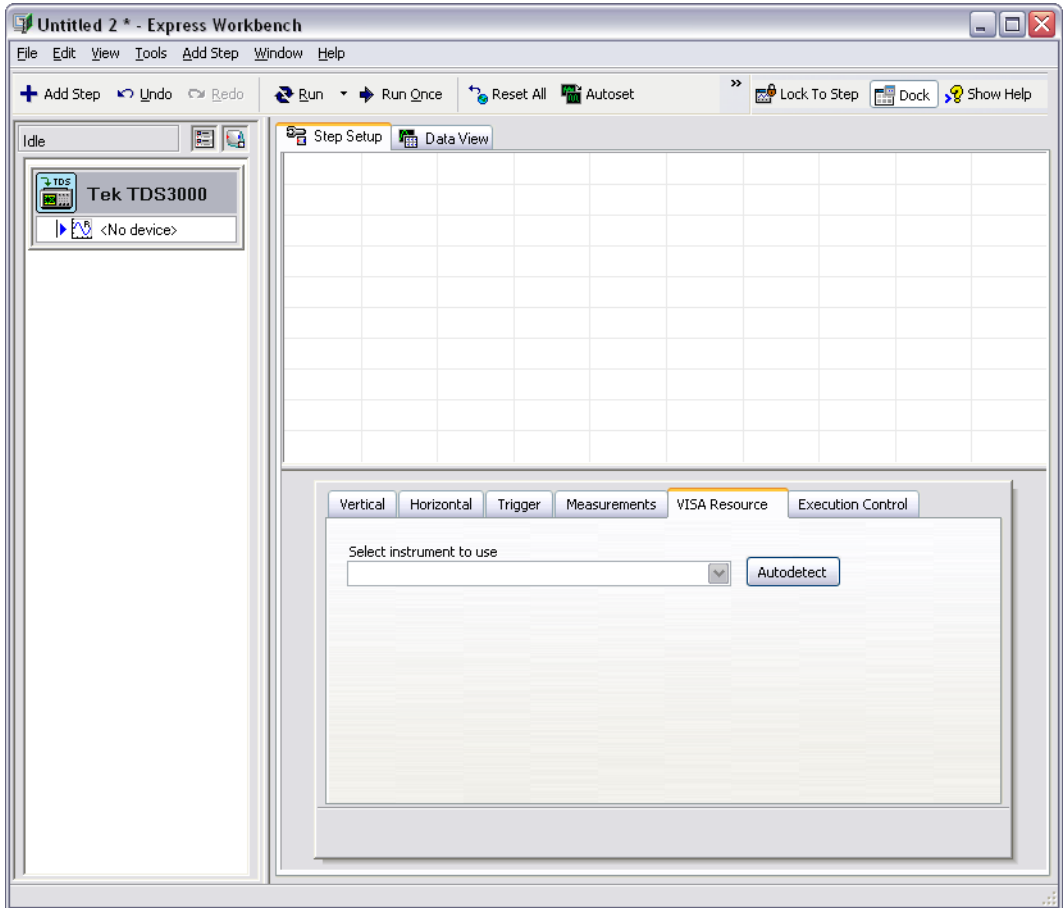

Figure 3-10. Autodetect Tektronix TDS3000 Series Oscilloscopes GPIB Connection
3. Click the **Add Step** button, shown at left, and select **Tektronix»Acquire Signals»Tek TDS3000**. The Tektronix TDS3000 series oscilloscope **Step Setup** dialog box launches, as shown in Figure 3-10.